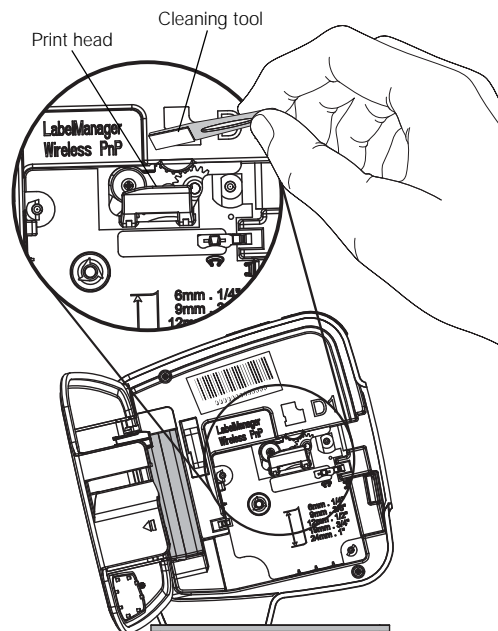

Figure 7
- 5 Gently wipe the padded side of the tool across the print head. See Figure 7.